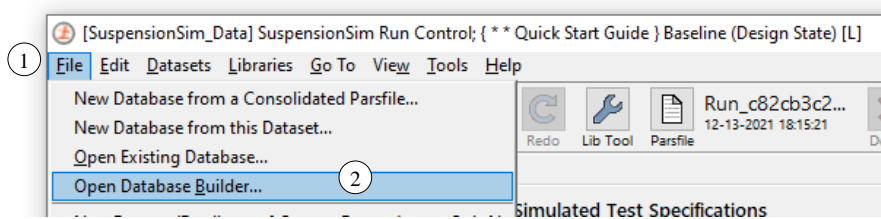

Figure 3. Using the File menu command Open Database Builder.
You can access the Database Builder any time after the initial installation of SuspensionSim. It can be viewed whenever the **Select Recent Database** window appears. It can also be brought up from within SuspensionSim using the File menu (1) command **Open Database Builder** (2), Figure 3.